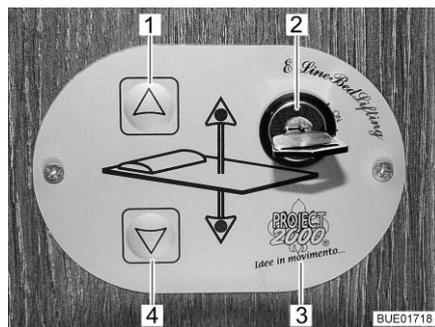

Fig. 73 Control unit
The pull-down bed is raised or lowered using the buttons (Fig. 73,1 and 4) on the control unit (Fig. 73,3). The control unit is protected against unauthorized use with the key switch (Fig. 73,2).
- Turn the key in the key switch (Fig. 73,2) by 90° in a clockwise direction to position "On". The control unit (Fig. 73,3) is activated.
- Press the arrow key (Fig. 73,4) and keep it pressed until the pull-down bed has moved down into the desired position.
- Press the arrow key (Fig. 73,1) and keep it pressed until the pull-down bed has moved down into the final upper position.